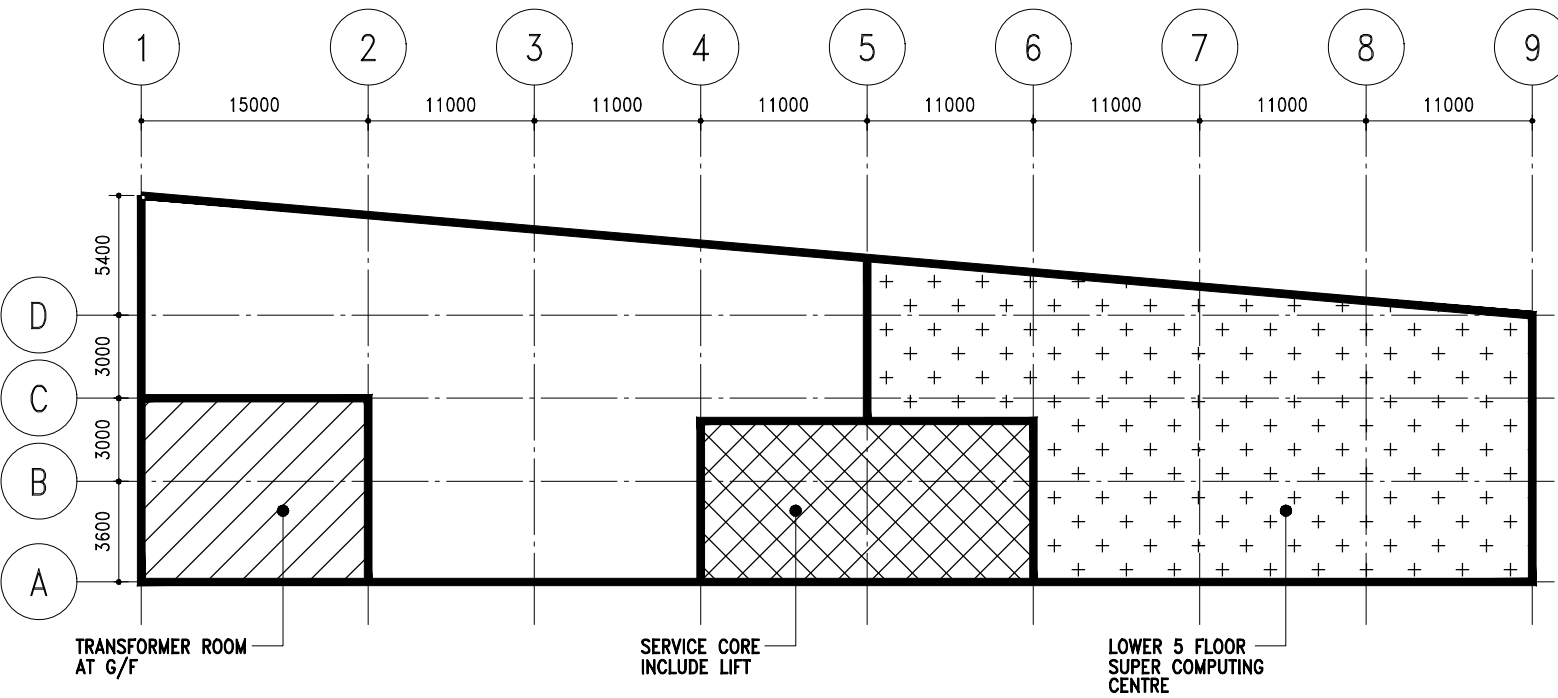

FIGURE 1 – TYPICAL FLOOR PLAN
1. A resort style hotel building with a large pool deck is to be constructed at the outlying Island of Hong Kong. See Figure 1 to 3.